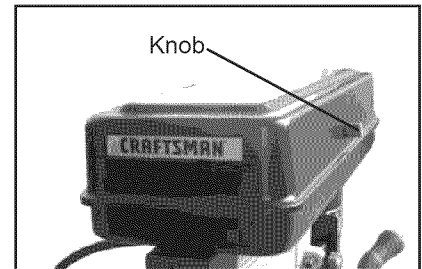

Figure 7
6. Install knob for the head assembly lid. Fig. 7